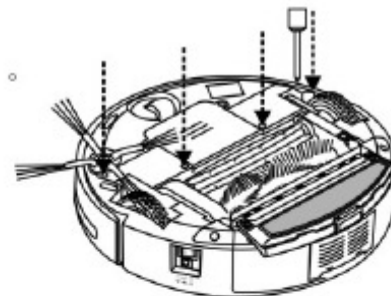

Figure 1
1. Release the screw of the left/right wheel by the screwdriver. (Refer to Figure 1)